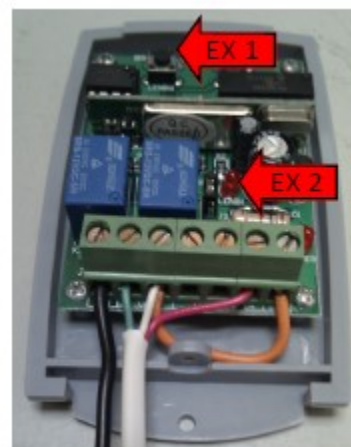

Fig. 3
A. Press and release the LEARN1 button at the top of the receiver board (ex 1). The learn LED will illuminate steady (ex 2). (Fig 3)